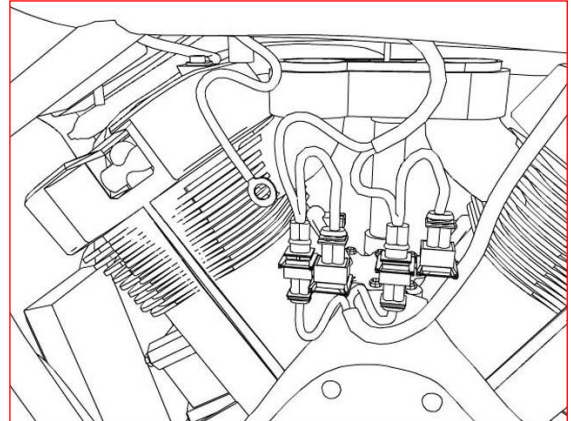

Figure 13
12. **Connect the TFI harness to the stock harness. Pay attention to the color-coding. The TFI harness with the yellow and white leads is for the front injector. It is essential the connectors be installed properly at the front and rear injectors. (see figure 13)**